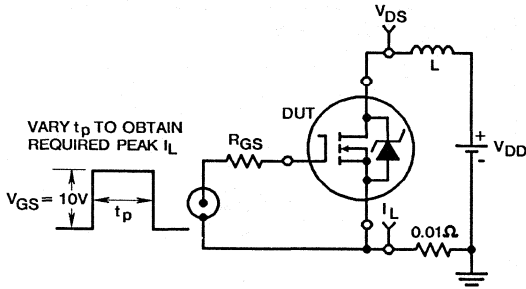

Figure 14. Unclamped Energy Test Circuit
4. $V_{DD} = 50V$, Starting $T_J = +25^\circ\text{C}$, $L = 4.5\text{mH}$, $R_G = 25\Omega$, Peak $I_L = 14A$ (See Figures 14 & 15).
(See Figure 14, $L = 100\mu\text{H}$)